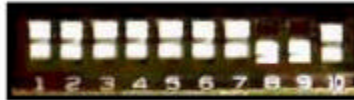

Figure 13. 10-Position DIP-Switch Package
2. Set DIP-Switches 8 and 9 to the **on** (down) position (**Figure 13**); set all remaining switches to the **off** (up) position.